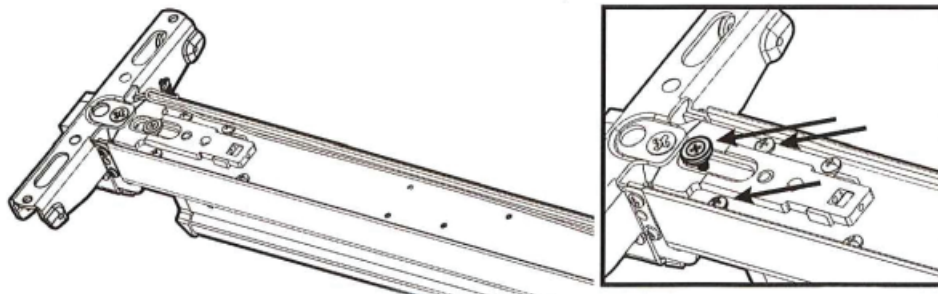

Figure 2 Three-screw removal (Mechanical base device)
- Remove the three (3) screws holding the trim slide and latch assembly in place. See Figure 2.
- Mechanical with M91 carrier assemblies require the removal of three screws. See Figure 2.
- Mechanical with M92 carrier assemblies require the removal of three screws. See Figure 2.
- Mechanical with M93 devices require the removal of the three screws. See Figure 2.
- Mechanical with M91 and M92 devices require the removal of three screws. See Figure 2.